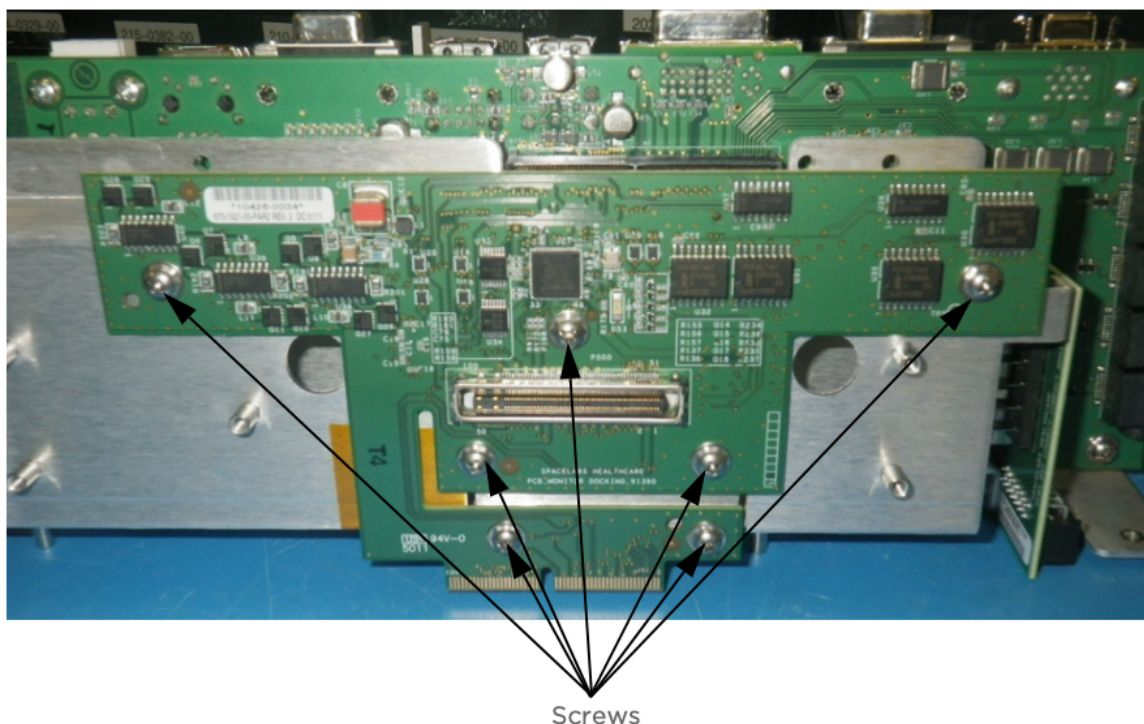

Figure 4-15 Docking PCB
- 2 With the Chassis assembly face down, remove the seven screws shown in Figure 4-15 on page 4-21 for option A. Remove the five screws for option B or C.